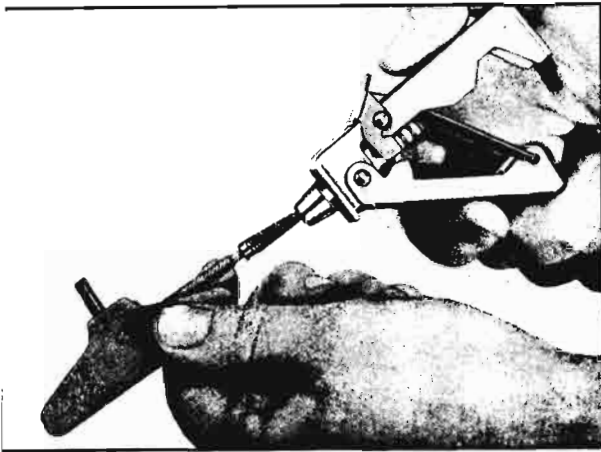

Fig. 3-44—Piercing Cement Cartridge
- c. Remove cleaning needle from the puncture and pierce cartridge with point of needle inserted through the nozzle of the tool. Enlarge the opening by twisting (fig. 3-44).